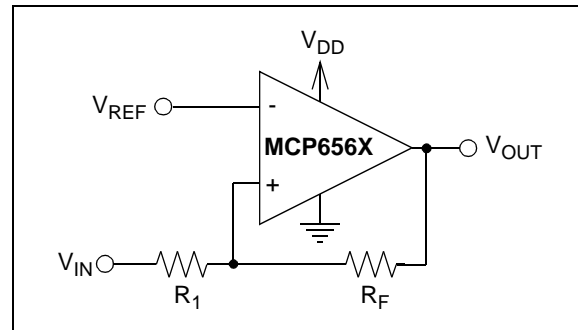
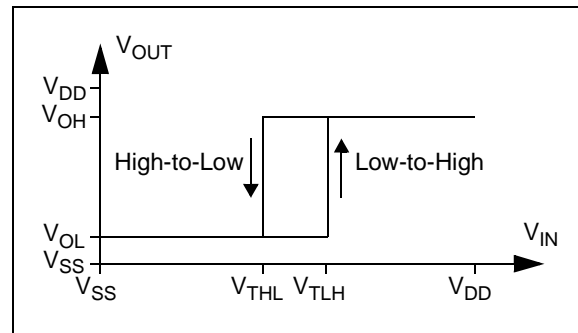

FIGURE 4-4: Non-inverting Circuit with Hysteresis for Single-Supply.
FIGURE 4-5: Hysteresis Diagram for the Non-inverting Circuit.
Figure 4-4 shows a non-inverting circuit for single-supply applications using just two resistors. The resulting hysteresis diagram is shown in Figure 4-5.
The trip points for Figure 4-4 and Figure 4-5 are:
2. Non-inverting Configuration (Figure 4-4):